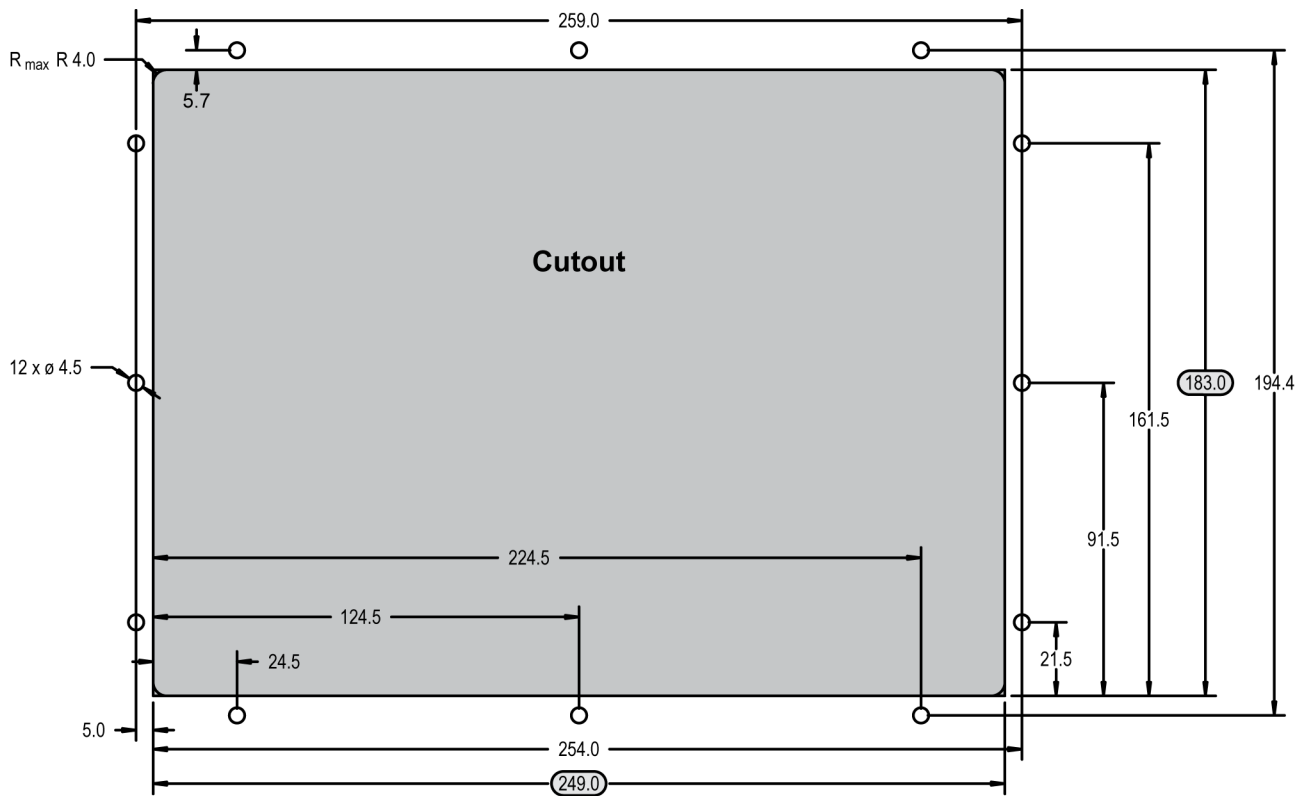

Fig. 24: Plastic housing - drill plan
The housing is equipped with 12 nut inserts (Fig. 24), which must all be tightened properly to achieve the required degree of protection.
1. ➤ Cut out the panel and drill the holes according to the dimensions in Fig. 24 (dimensions shown in mm).